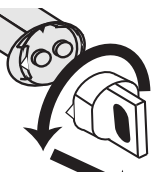

Fig 4
**4.** Remove the cap on the EZ-Fill Xpress syringe and attach the mixing tip as depicted in Figures 4, 5, and 6. Depress the plunger to express material onto the mixing pad. **Discard the first few drops of sealer as they may be improperly mixed.**